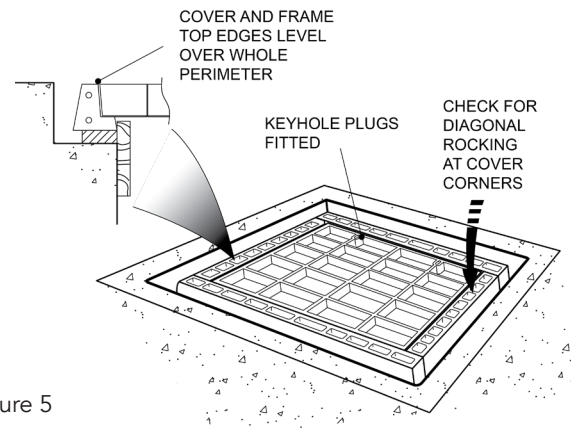

Figure 5
- Check for any diagonal rocking movement between the cover and the frame and adjust the frame packing if necessary to eliminate rocking movement. (Figure 5)